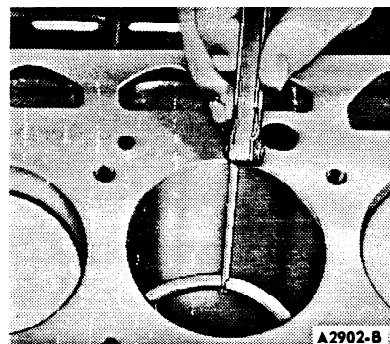

FIG. 26 Checking Piston Ring Gap
5. Measure the gap between the ends of the ring with a feeler gauge (Figure 26). If the ring gap is less or greater than the specified limits, try another ring set.